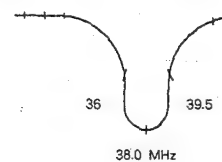

Fig. 3-7
- (2) Apply 3.5 VDC to TP14.
- (3) Adjust L205 so the 38.0 MHz marker is the lowest waveform at TP12. (See Figure 3-7)